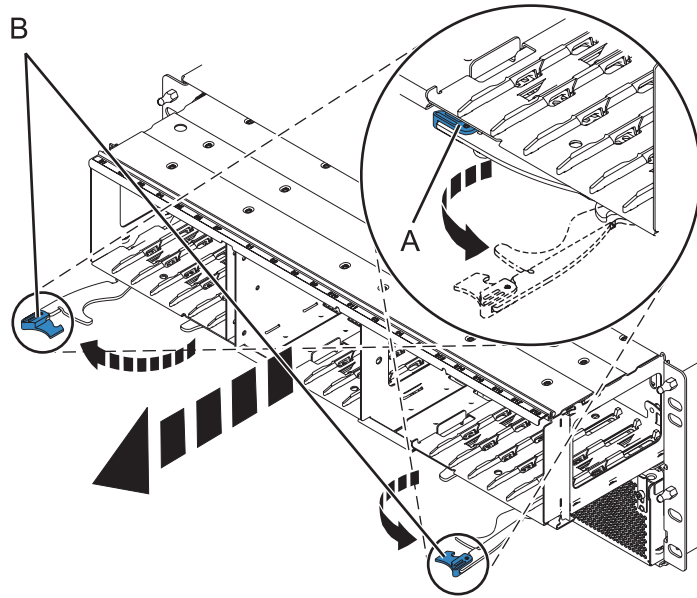

Figure 53. Removing the backplane from the enclosure
6. Remove the backplane as shown in Figure 53 on page 70.